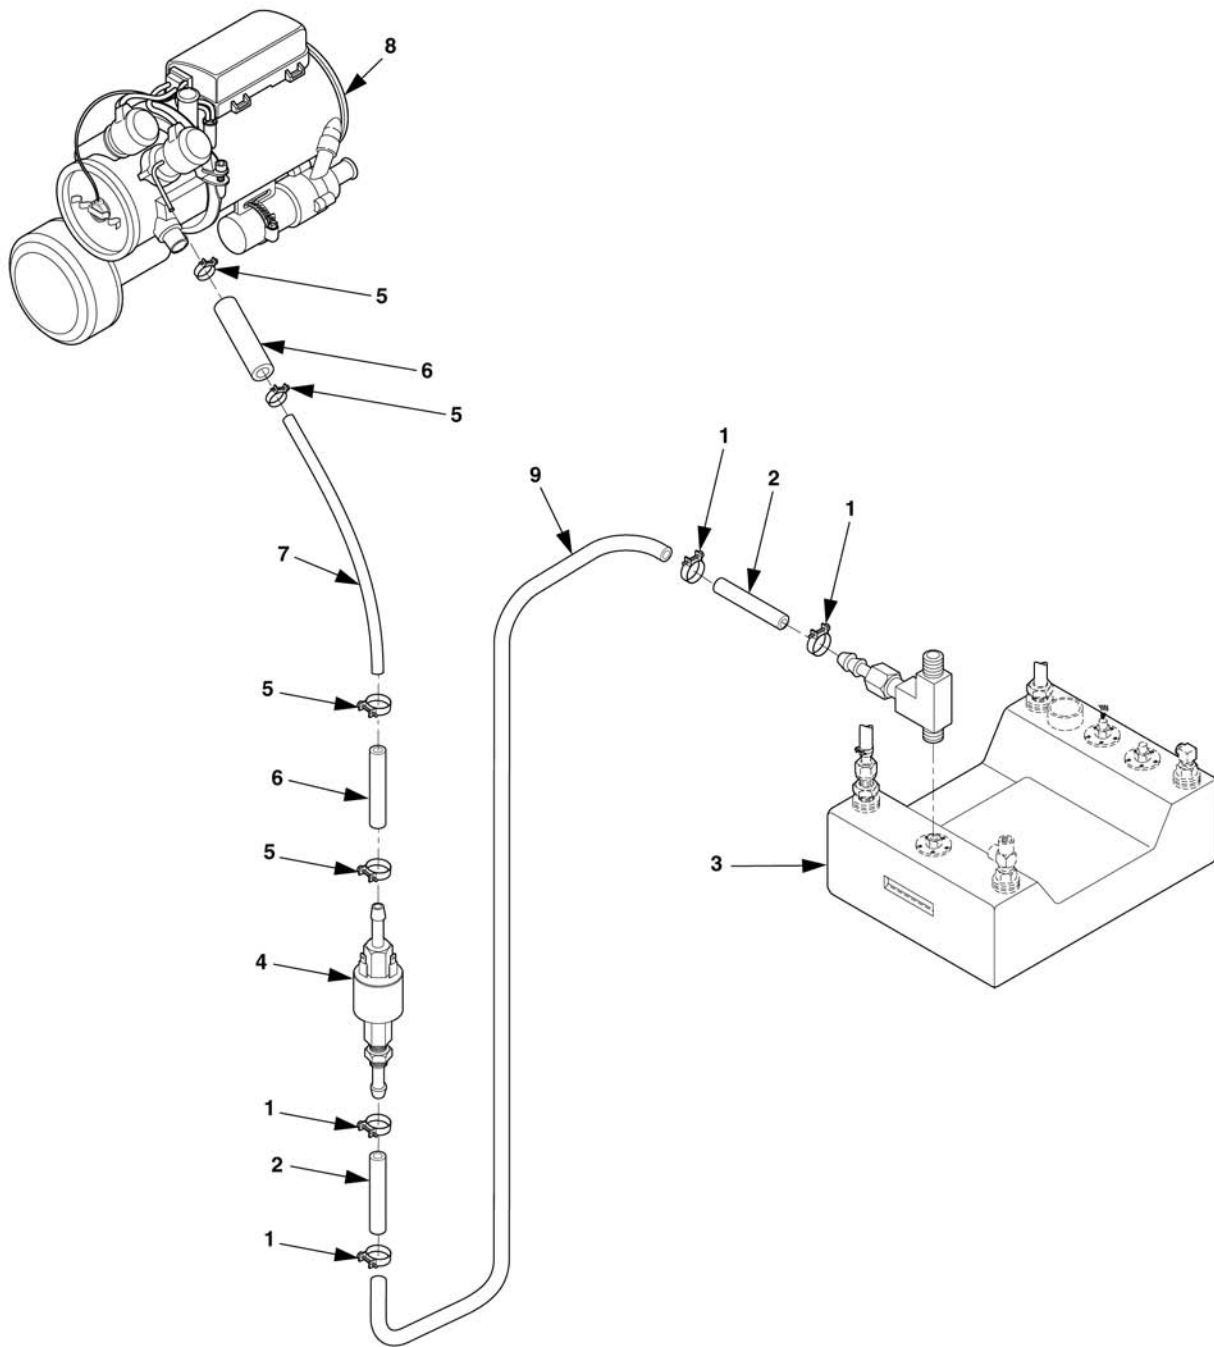

Figure 6-16. Fuel Line Maintenance.
- a. Loosen screw clamps (1, Figure 6-16), to remove butt splices (2) and fuel line (9) between primary fuel tank (3) and fuel pump (4). Drain any fuel from line into a suitable container.
- b. Loosen screw clamps (5) to remove butt splices (6) and fuel line (7) between fuel pump (4) and heater (8).